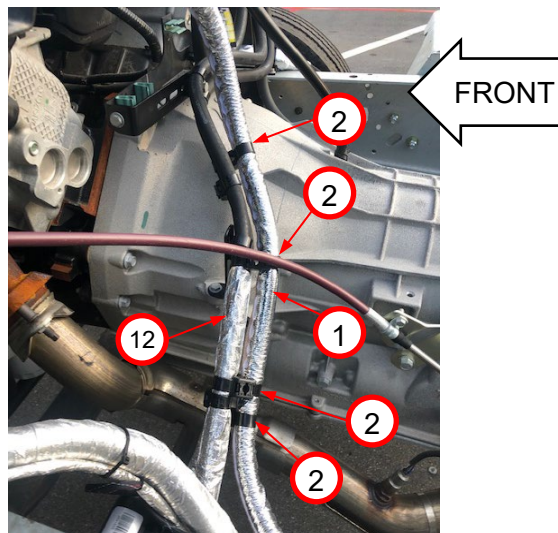

Figure 4.
7. Install four dual tie strap clips (9), p/n 61090072, to secure LP flexible fuel hose. *Figure 4*